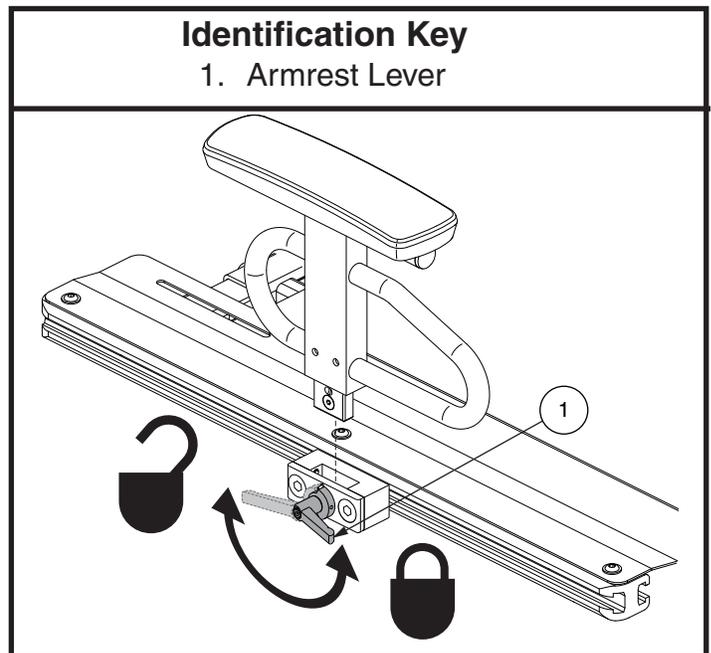
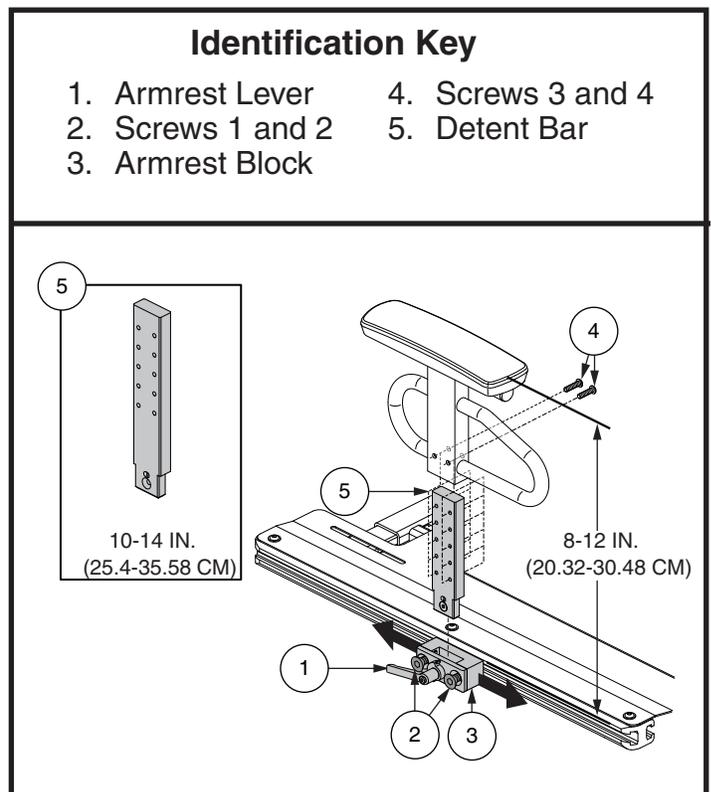

Figure 13. Heavy Duty Drop-in Armrest Removal/Installation
Figure 14. Heavy Duty Drop-in Armrest Position and Height Adjustment
The Heavy Duty Drop-in Armrests are designed to be removed for easier transfer onto and off of the power chair. **See figure 13.** The armrest height and position can be adjusted. **See figure 14.**
1. Rotate the armrest lever rearward. **See figure 13.**
1. Place the armrest assembly into the armrest block. **See figure 13.**
1. Rotate the armrest lever rearward and remove the armrest from the armrest block. **See figure 13.**
2. Loosen screws 1 and 2. **See figure 14.**
5. Install the armrest in the armrest block and rotate the armrest lever forward. **See figure 14.**
1. Remove screws 3 and 4. **See figure 14.**
3. Reinstall screws 3 and 4. **See figure 14.**